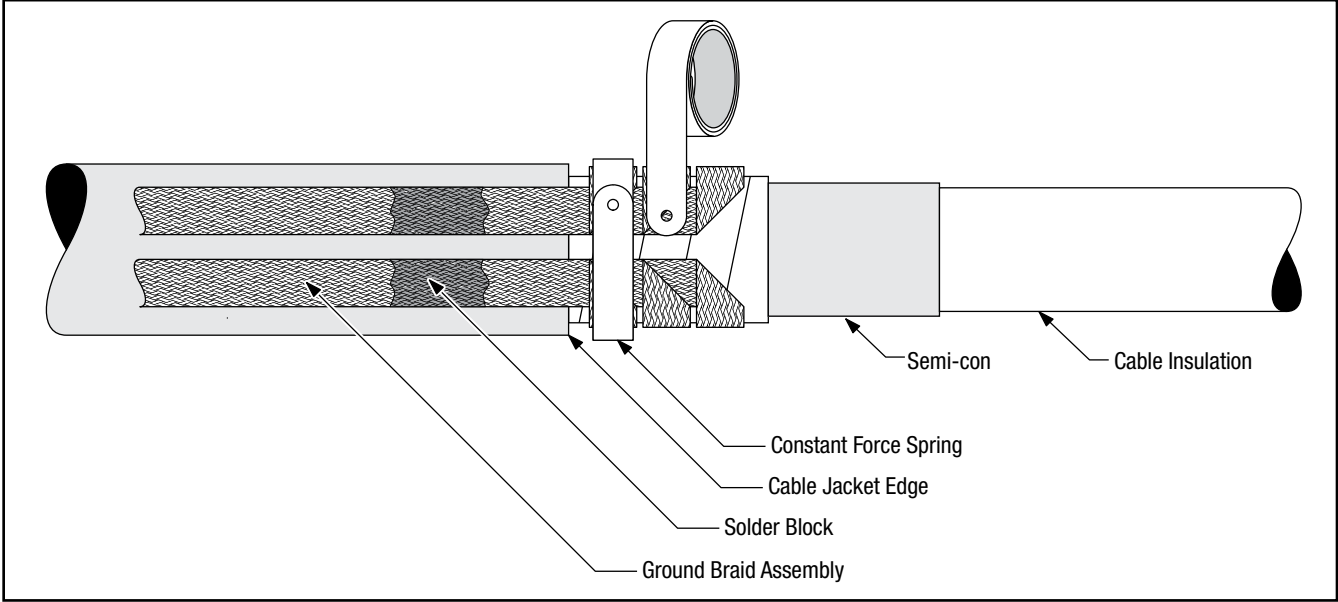

Figure 4
- 2.3 Select the 3 constant force springs from the kit. Starting at the loop of the ground braid assembly nearest the cable jacket edge, install the 3 constant force springs, one around each ground braid loop. Cinch (tighten) the springs after wrapping the final turn. Extend the ground braid tails down the cable jacket. (Figure 4)